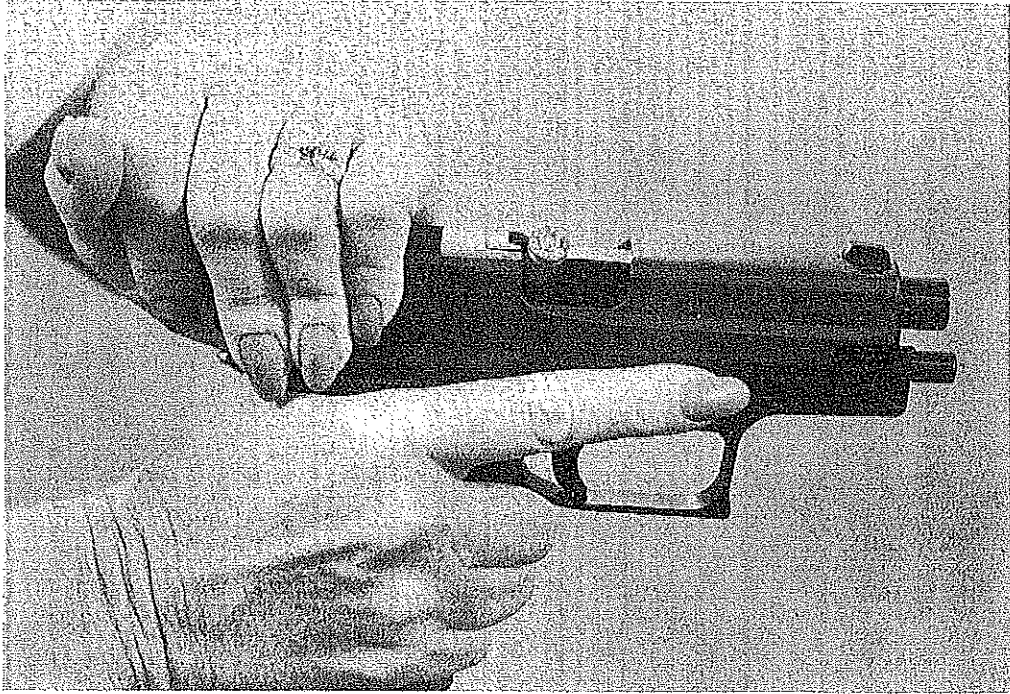

FIGURE 45
(1) Take your finger out of the trigger guard.
(2) Accepted action drills include racking the slide to the rear or sweeping the spent case clear of the ejection port, thus releasing the slide to chamber a fresh round and fire. (Figures 45 & 46)